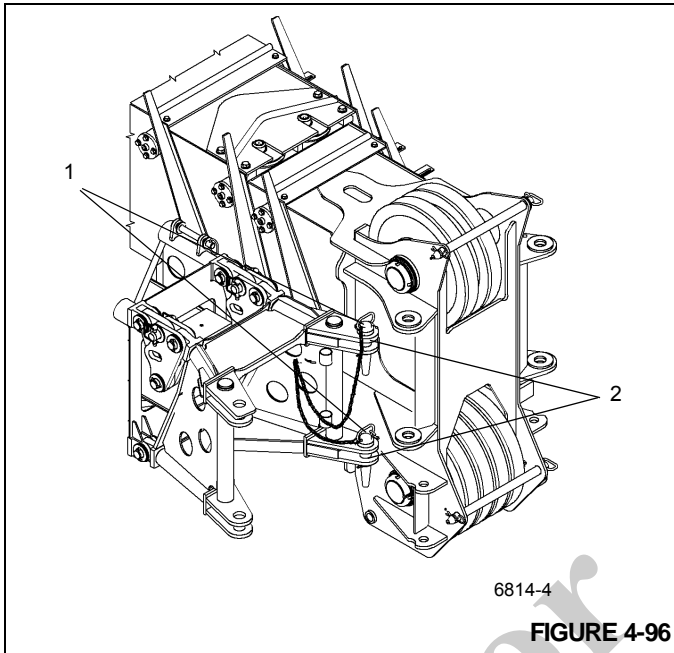

FIGURE 4-96
13. Remove the attachment pins and clip pins (Figure 4-96, 1) from the anchor and attachment fittings (Figure 4-96, 2) on the right side of the boom nose and stow them in the base of the boom extension. Stow left side attachment pins and clips in outside attachment fitting on swingaway.